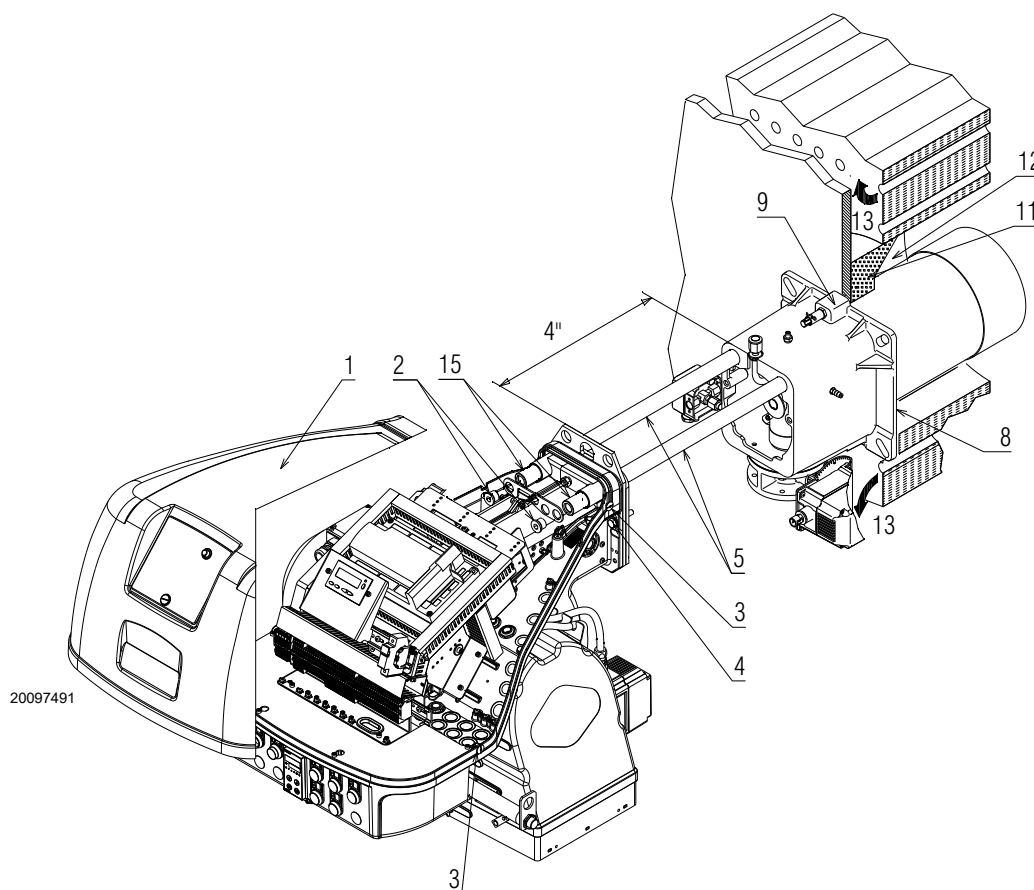

Fig. 11
- For boilers with front flue passes 13)(Fig. 11) or flame inversion chambers, a protection in refractory material 11) must be inserted between the boiler refractory 12) and the blast tube 10). This protection must not compromise the extraction of the blast tube.
- For boilers with a water-cooled frontal, a refractory lining is not necessary 11)-12)(Fig. 11) unless expressly requested by the boiler manufacturer.
- Secure the burner to the boiler, fixing the flange 9)(Fig. 11) to the boiler plate and interposing the insulating gasket 8).
- loosen the 4 screws 3)(Fig. 11, page 16) and remove the cover 1);